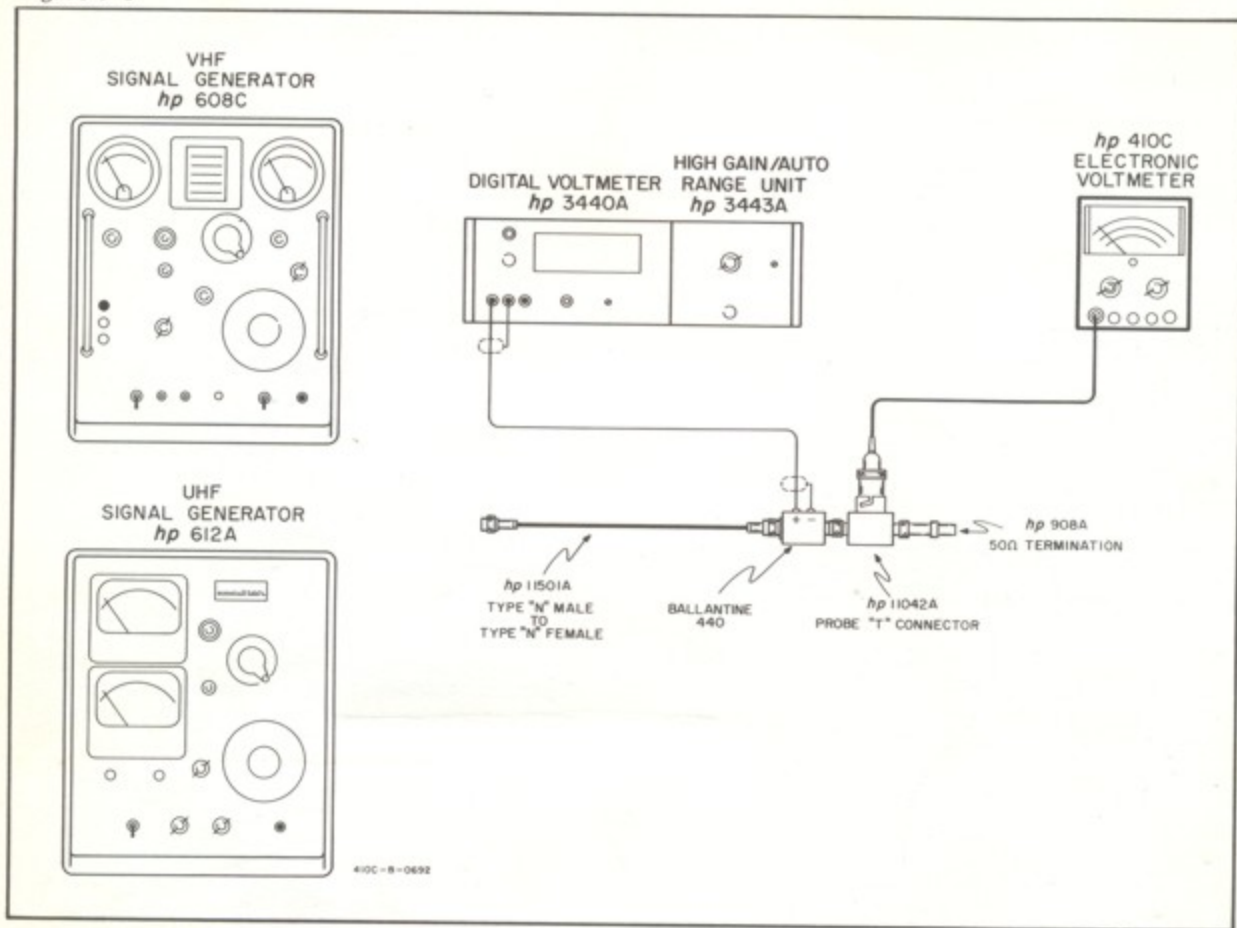

Figure 5-4. High Frequency Response Test
a. A VHF Signal Generator (Model 608C), a UHF Signal Generator (Model 612A), a Probe-T-Connector (Model 11042A), a Micropotentiometer (Ballantine Model 440), and a DC Voltmeter (Model 3440A/3441A) are required for this check. Figure 5-4 describes test arrangement to be used.